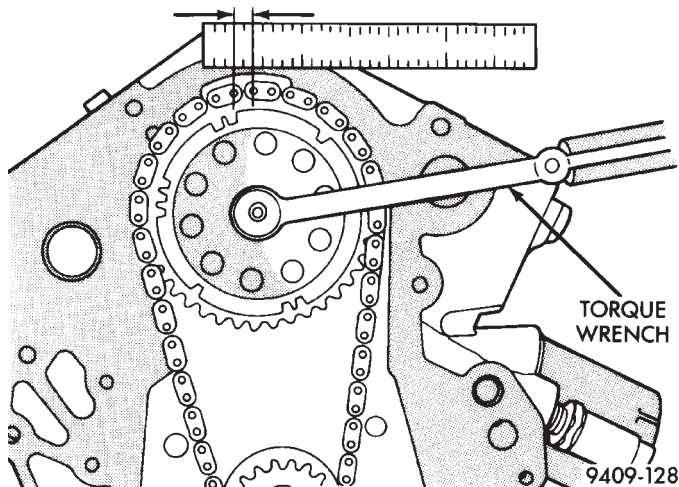

Fig. 18 Measuring Timing Chain Wear and Stretch
(1) Place a scale next to timing chain so that any movement of chain may be measured.
(2) Place a torque wrench and socket on camshaft sprocket attaching bolt and apply torque in direction of crankshaft rotation to take up slack; 41 N·m (30 ft. lbs.) with cylinder head installed or 20 N·m (15 ft. lbs.) with cylinder heads removed. **With a torque applied to the camshaft sprocket bolt, crankshaft should not be permitted to move. It may be necessary to block crankshaft to prevent rotation.**
(3) Holding a scale even, with dimension reading as shown, along edge of chain links. Apply torque in the reverse direction to 41 N·m (30 ft. lbs.) with cylinder heads installed, or 20 N·m (15 ft. lbs.) with cylinder heads removed. Check amount of chain movement (Fig. 18).